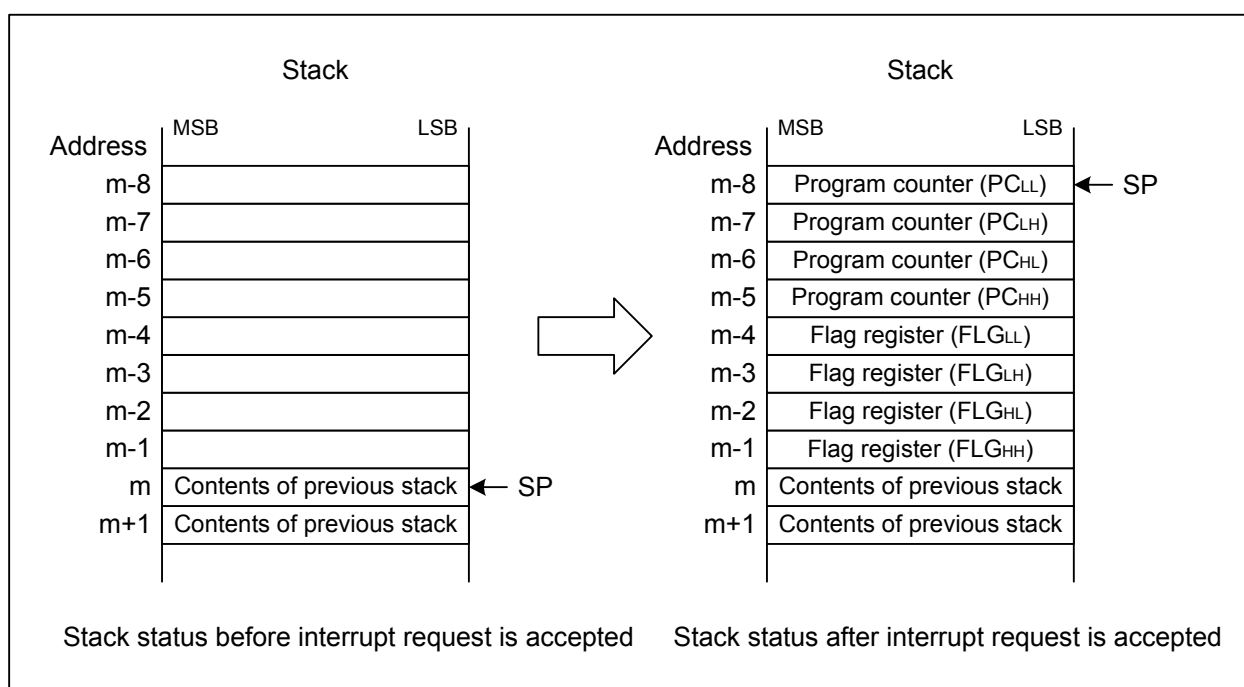

Figure 10.8 Stack Status Before and After an Interrupt Request is Accepted
In the interrupt sequence, the flag register (FLG) and program counter (PC) values are saved to the stack, in that order. Figure 10.8 shows the stack status before and after an interrupt request is accepted.